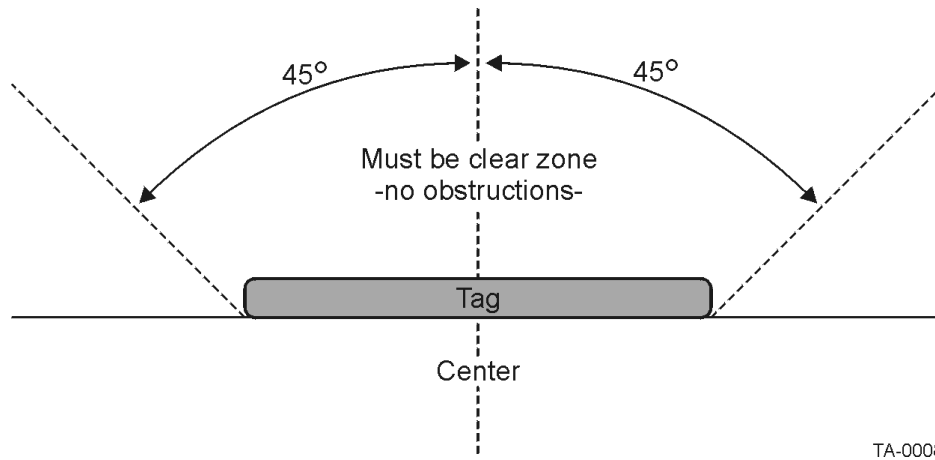

Figure 4 – Obstruction-Free Area
1. The area within 45 degrees of the center of the tag should be free of obstructions (**Figure 4**).